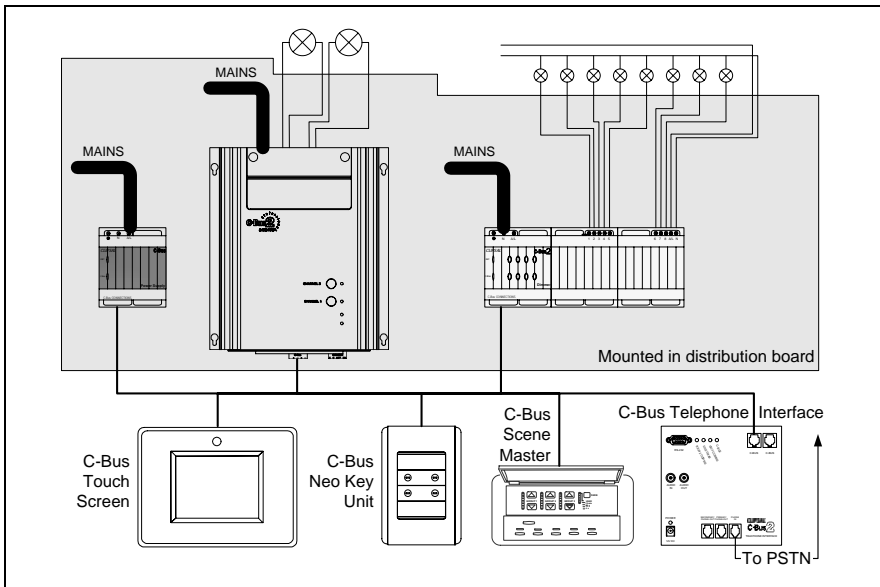

Figure 1 – The 5100T is mounted separately to the distribution board
**The C-Bus Telephone Interface must not be placed within a mains distribution board. It is connected to the C-Bus and Telco networks, as shown in Figure 1.**